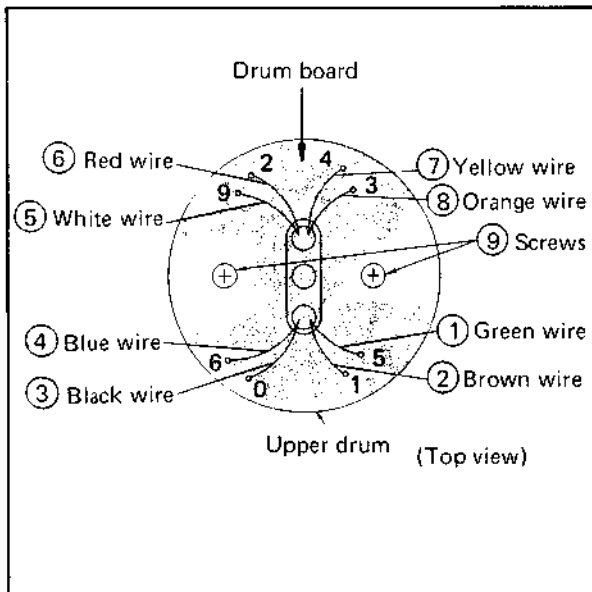

Fig. 4-24
1. Refer to Fig. 4-24.
2. Unsolder wires ①, ②, ③ and ④ (CH-1).
3. Unsolder wires ⑤, ⑥, ⑦ and ⑧ (CH-2).